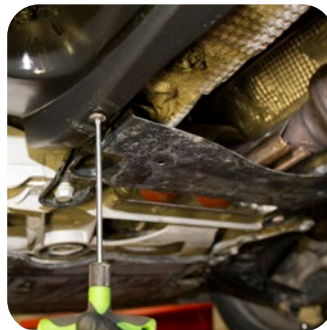

FIG. 12
- 12** Use your T25 Torx to remove the bolts on either side of the rear of the wind deflector and remove. (See Fig. 12)